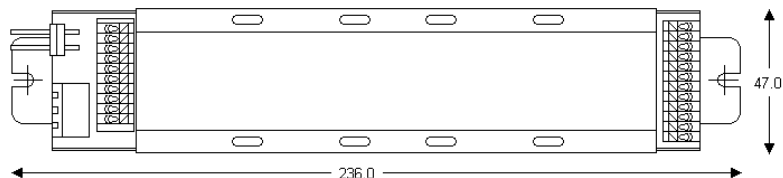

Figure 1: Nexus Inverter Pack Dimensions: Length 236mm, Width 47mm, Height 41mm
2. If all looks okay proceed with the installation, use a pencil to mark the position of the mounting screw holes for the inverter and the battery pack in the gear tray. Figure 1 describes the inverter pack dimensions.